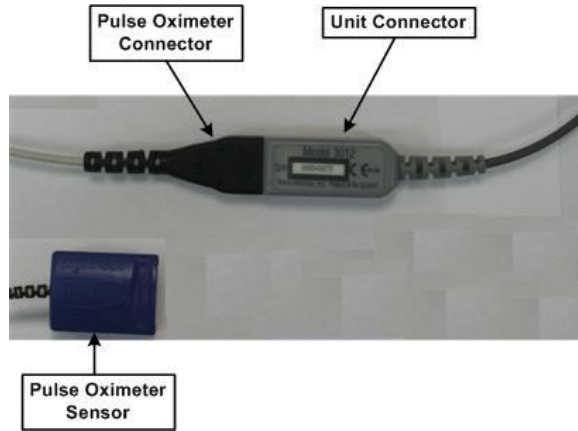

Figure 19: Pulse Oximeter Sensor
2. Connect the Pulse Oximeter sensor to the gray end of the Unit Connector cable (Figure 19).